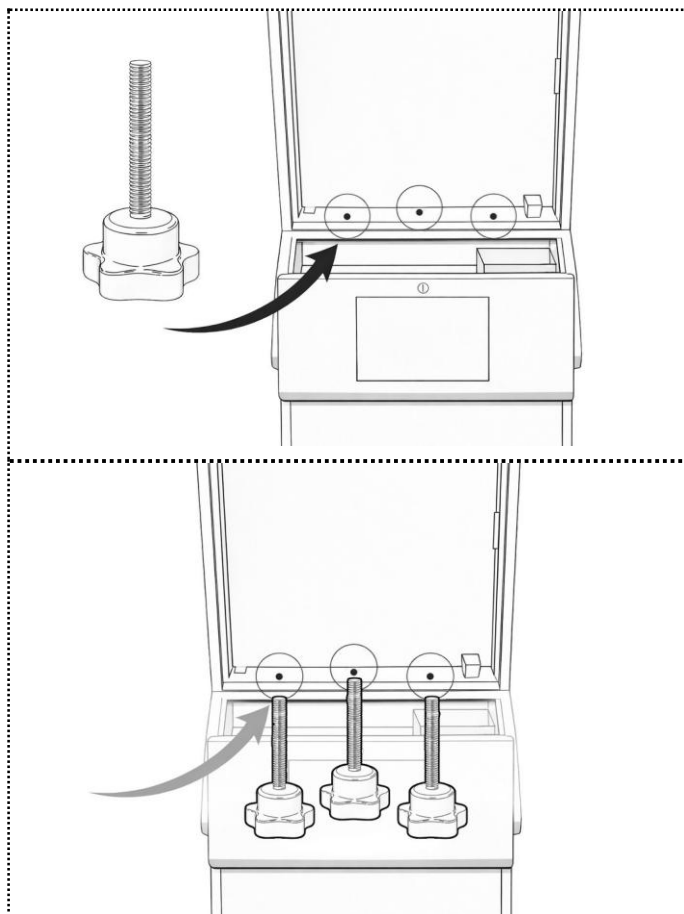

Figure 5.2: Position and direction for fastening the mounting bolts (fasten from the bottom upward)
3. **Immediately after raising the upper section, the machine must be secured using the three mounting bolts, fastened from the underside of the machine with the bolt heads facing downward** (see Figure 5.2).